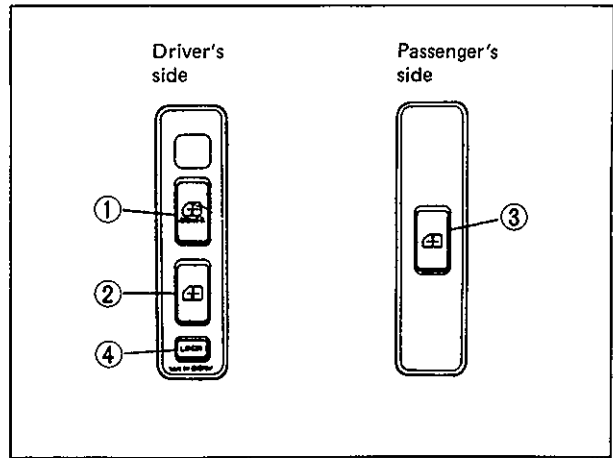

Fig. 8-70 Switch
As the power window switch is operated in one way or the other, an electric current flows to the window regulator motor to run it. Whether the motor turns clockwise or counterclockwise is determined by the direction in which the electric current flows. Thus, the window moves up or down depending on the rotation direction of the motor. The solid arrow line (—→) in Fig. 8-72 shows the electric current flow when the driver's side switch (① in Fig. 8-70) of the power window main switch is operated for upward movement and the broken arrow line (- - -→) for downward movement.